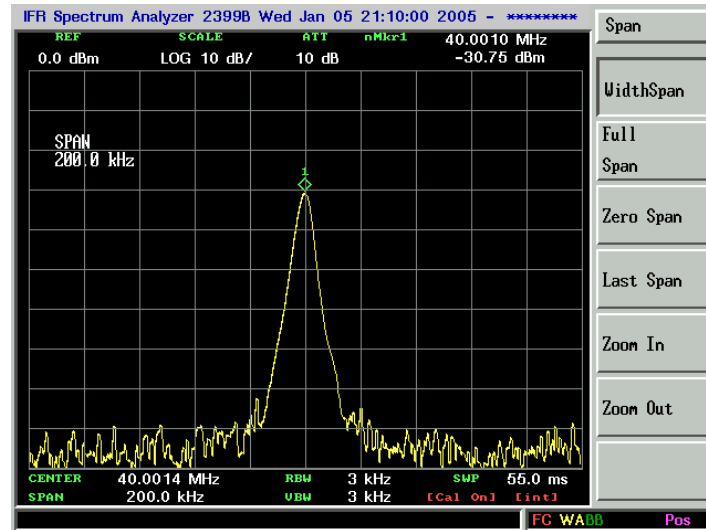

Figure 2-9. After Zoom-In on the Signal
5. Press **SPAN**, 200 kHz. The span decreases in steps as automatic zoom is completed. See Figure 2-9. You can also use the scroll knob or step keys to decrease the span or use the *Zoom* function under **SPAN**.